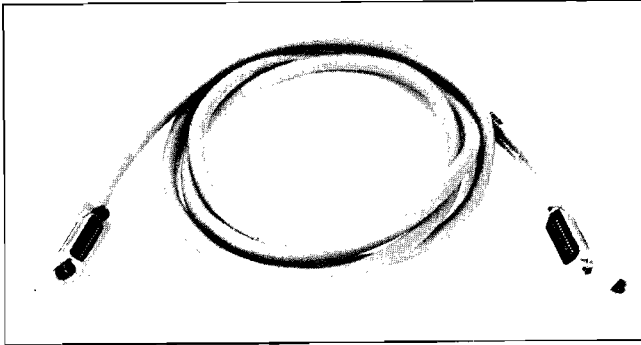

Figure 1-13. HP-IB Interconnecting Cable
2. A standard 2-meter HP-IB interconnecting cable (figure 1-13). This cable has a double-sided male/female connector on both ends to allow stacked interconnection of multiple cables.